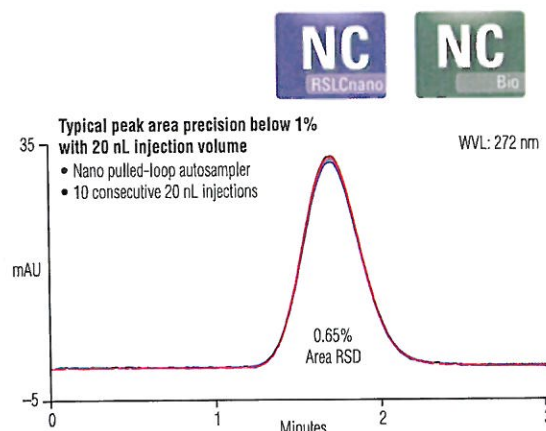

Figure 21. Typical 20 nL injection precision of < 1% (WPS-3000TBPL Nano/Cap autosampler)
- Excellent injection precisions (typically <0.3% for 1 µL full loop injections and <1% for 20 nL partial-loop injection), independent of the sample format (Figure 21).